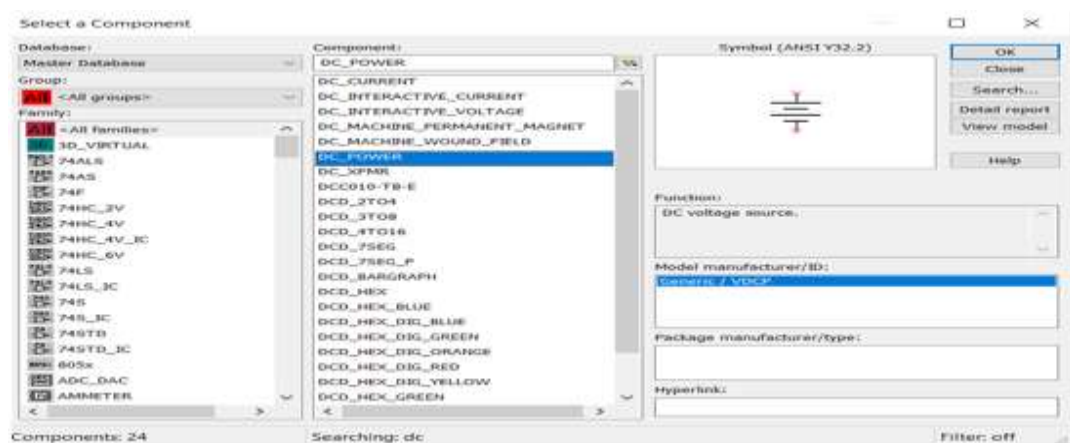

Figure 2b: DC power source
- Select the DC\_POWER component (Figure 2b) and place it on the workspace.